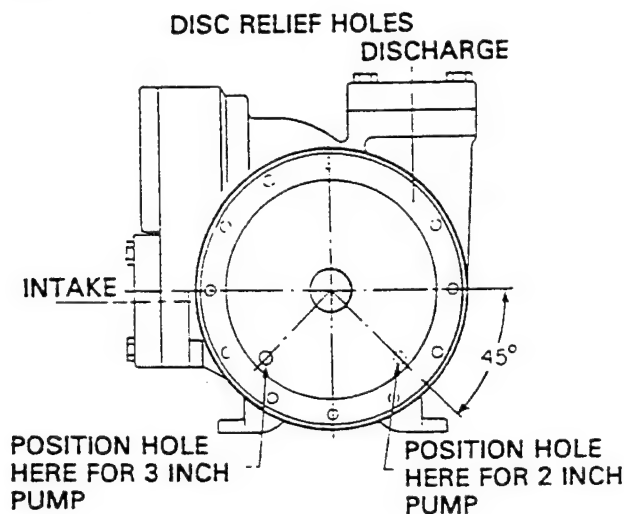

Fig. 7
Install a disc, against the liner, with the seal cavity outward and the disc hole radially positioned as shown in Fig. 7. Slide the seal jacket assembly over the shaft, with the drive tangs towards the rotor. Rotate the seal jacket assembly to get its tangs through the disc and engaged in the two (2) drive holes in the rotor. Insert the rotating "O" ring into the seal face and slide this subassembly, with polished mating face outward, over the shaft to the seal jacket assembly. Rotate the seal face to align the drive notches. Wipe any dirt, oil or grease off the mating surface of the seal face with a clean tissue (not a shop cloth).